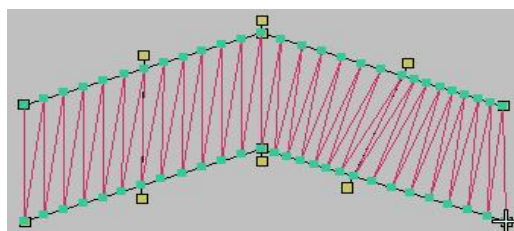

Figure 2
2.Click "Add Angle Line" with the left mouse button to add an angle line at the position that needs to be adjusted (as shown in Figure 2).